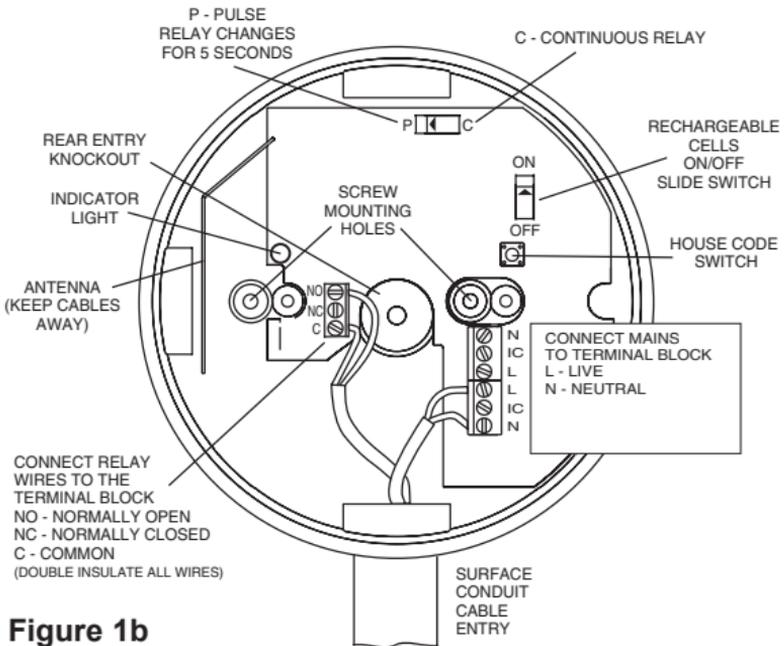

Figure 1b
3. Where the incoming wiring is on the surface of the wall/ceiling, the appropriately sized trunking / conduit must be chosen to mate with the unit. Use a sharp knife to remove the material from the knockout, making sure that there is no gap when mated with trunking/conduit. There is one suitable surface cabling knockout (the other two surface entries are not recommended as the wiring will reduce the antenna signal). There is one rear entry knockout. See figure 1b.
4. Screw the Ei428 module to the wall after first removing the required knockout and bringing the house wires through it (see figure 1b).
5. Connect the house wires (L-Live to wires coloured brown, red or marked L, N-Neutral to wires coloured blue, black or marked N) to the terminal block as shown in figure 1b.
If momentary relay operation is required, carefully and gently slide the yellow switch to the “P” position with a small screwdriver (see figure 1b). This is commonly used with warden call systems where only momentary short circuit signalling is required. This must be done before the mains power is connected or the rechargeable cells are activated.
7. Connect the rechargeable cells by carefully and gently sliding the switch to the “ON” position (see figure 1b). This switch must be in the ‘on’ position to ensure correct operation.
9. Connect the mains power to the Ei428 module. Check the green light is on. If the green light changes to red every 10 seconds then switch off the mains power, remove the cover and check that the battery slide switch is in the "ON" position (see figure 1b). Replace the cover and turn the mains power back on. If there is still a problem the rechargeable cells may be depleted, leave the unit on mains power for 2 hours to charge and test again.
- (iii) The light flashing red every 10 seconds indicates a battery problem. Check that the slide switch is in the “ON” position (See fig 1b) and leave the battery to recharge for 2 hours before checking again. If the unit continues to flash red every 10 seconds then the unit is defective and must be replaced, see “Getting your Relay Base Serviced” section.
If your RadioLink Relay fails to work after you have carefully read all the instructions, checked that the unit has been installed correctly, and is receiving AC power (green light on) contact Customer Assistance at the nearest address given at the end of this leaflet. If it needs to be returned for repair or replacement, open cover and turn off rechargeable cells with slide switch (see fig 1b). Put the RadioLink Relay in a padded box and send it to "Customer Assistance and Information" at the nearest address given on the unit or in this leaflet. State the nature of the fault, where the RadioLink Base was purchased and date of purchase.